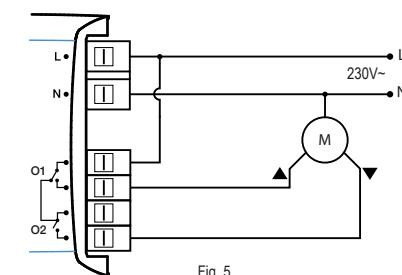

Fig. 5
- Fig. 5: Control of 1 Blind/Shutter
- Fig. 5: Control de una persiana/Toldo